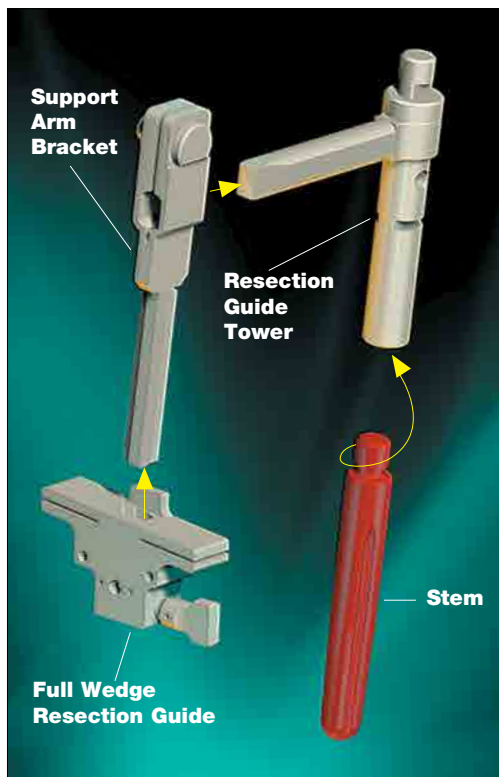

Figure 5A
- Tibial wedge cuts are made by assembling the tibial wedge cutting guide to support arm bracket (Figure 5A)